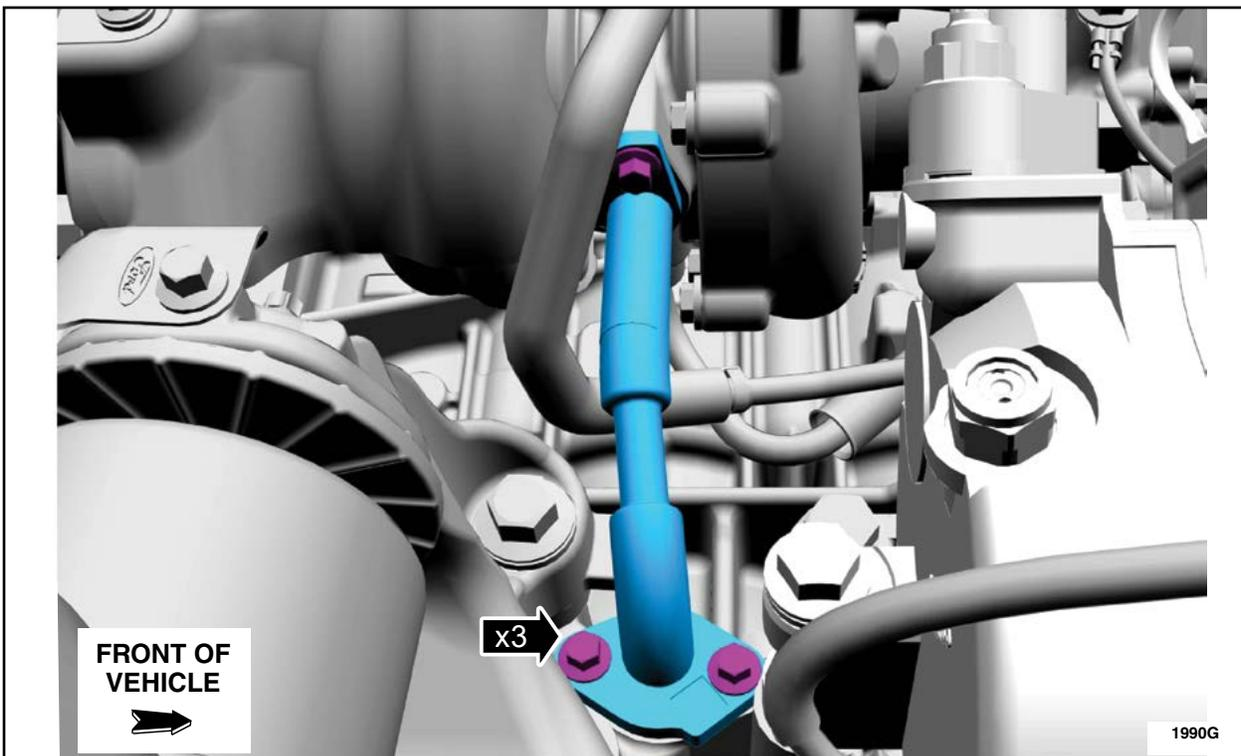

FIGURE 2
- Remove the turbocharger oil return tube. See Figure 2.